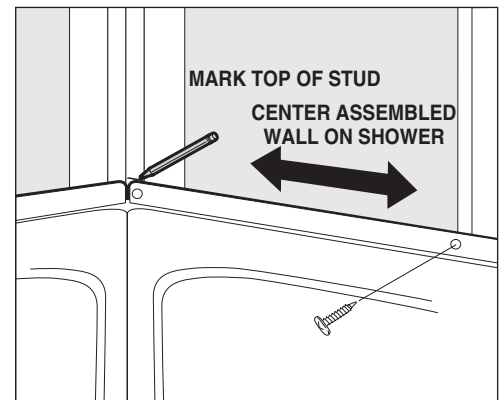

FIGURE 5. Mark studs.
- Mark the height of the wall on each stud to indicate where to apply adhesive on the stud. (Fig. 5)